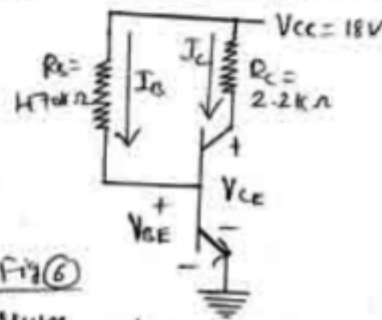

Fig 6
- 6) Calculate the maximum & minimum levels of I_C & V_{CE} for the base bias circuit shown in fig 6 when $h_{FE(\min)} = 50$ & $h_{FE(\max)} = 200$.